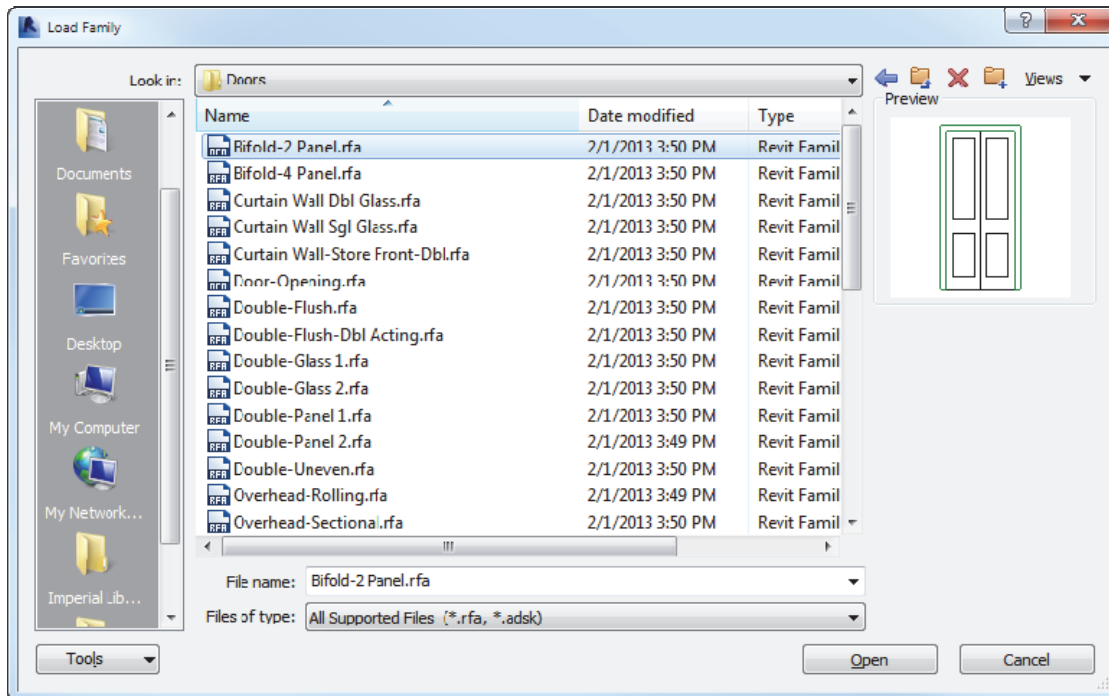

FIGURE 3-5.2 Door families on hard drive
4. Open the **Doors** folder and then select **Curtain Wall Dbl Glass.rfa**, and then click **Open**. (Figure 3-5.2)